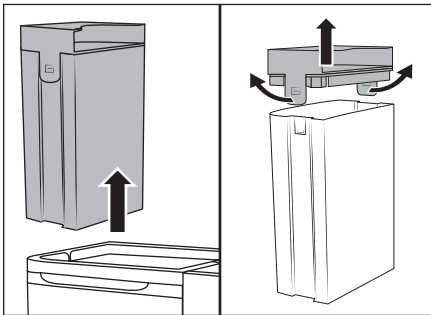

Fig. 5
(1) Fill the fresh water tank ②  only with cold to warm tap water or distilled water. Do not use boiling water. (2) Never operate the appliance without water in the fresh water tank ② . (3) Use only standard commercial, non-foaming upholstery cleaning agents or **LIDL W5 vinegar-based cleaner**. Other cleaning agents can damage the appliance. We recommend adding three tablespoons of **LIDL W5 vinegar-based cleaner** to a full (1.7 litre) fresh water tank ② . If necessary, add additional vinegar-based cleaner in small steps until obtaining the desired result.
- ◆ Hold the fresh water tank ②  by the handle of the lid ① and pull it upwards out of the appliance (see Fig. 5).
- ◆ Pull the two retaining tabs slightly outwards and remove the lid ① (see Fig. 5).
- ◆ Fill the appliance with tap water or distilled water, and add upholstery cleaning agent or W5 vinegar-based cleaner, if needed. Please observe the processing instructions of the manufacturer. Make sure that the fresh water tank ②  is filled no higher than the MAX marking.
- ◆ Place the lid ① on the fresh water tank ②  and press it down until the two retaining tabs click into place.
- ◆ Hold the fresh water tank ②  by the handle of the lid ① and insert it into the appliance.